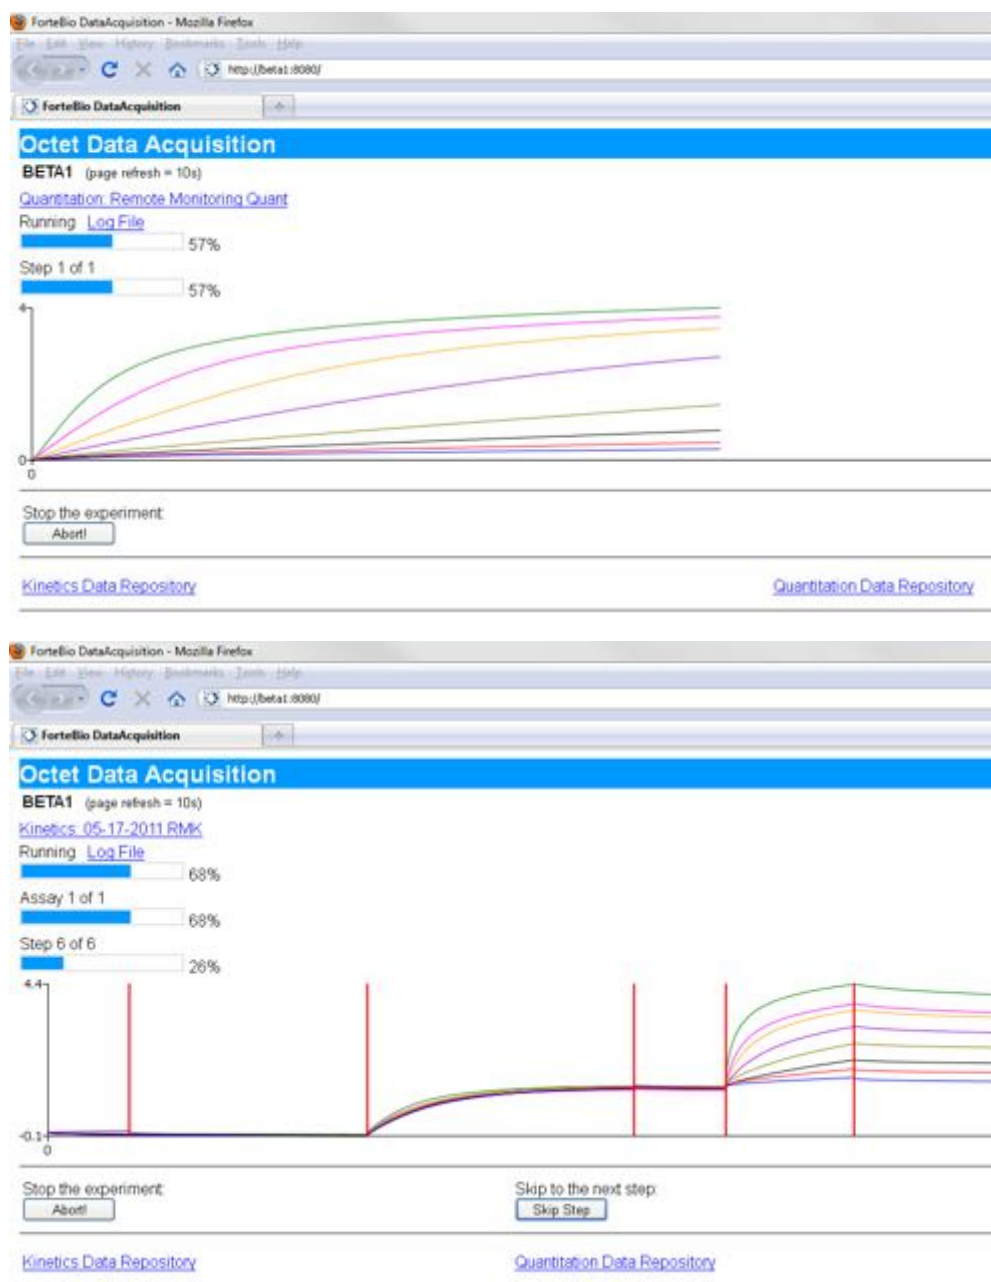

Figure 3-24: View of Quantitation Experiment (top) and Kinetics Experiment (bottom) via Web Browser
6. Enter the **Web Server URL** in the browser window or click the **Web Server URL** link in the **Options** dialog box. The experiment in progress will display (Figure 3-24).